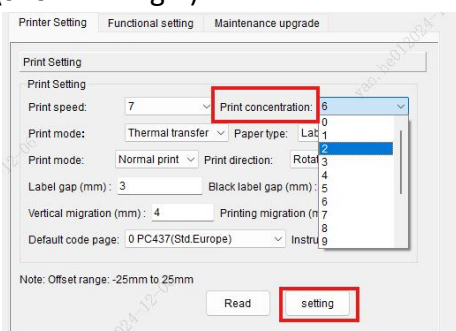

Fig.7
- ② **Print Concentration:** Range is 0~15, click the dropdown arrow on the right to freely select a value (shown in Fig.7).